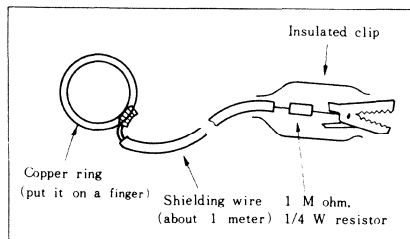

Fig. 1 An example of human body grounding
- (1) Keep all terminals of a device in the conductive mat during transportation and storage to keep them at the same potential. A conductive mat called "MOSPAK" is commercially available. Unless otherwise specially stated, all HITACHI IC memories will be shipped in our conductive mats. Store them as they are.
- (2) When handling by hand IC memories for inspection or connection, his finger must be grounded as shown in Fig. 1. Do not forget to insert a 1M ohm resistor to protect him against an electric shock.